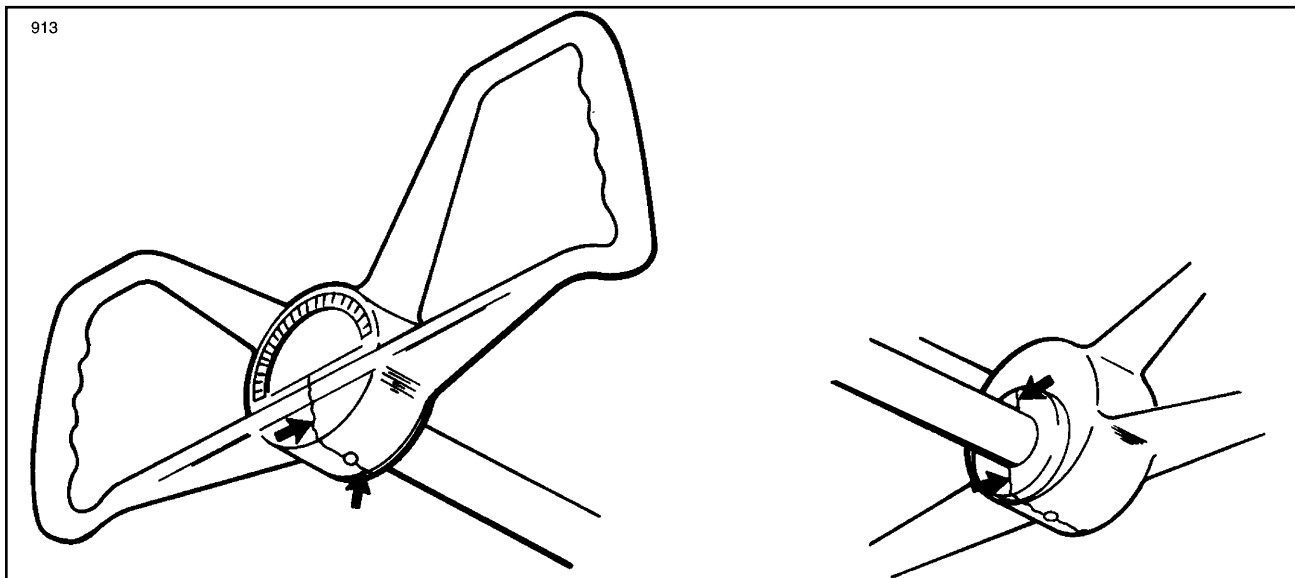

Figure 3-21. Control Wheel Inspection Points
### (20) CONTROL WHEEL 100 HOUR INSPECTION. (Refer to Figure 3-21.)
**NOTE:** Do not confuse any surface irregularities or mold marks with actual cracks. (Refer to Figure 3-21.)